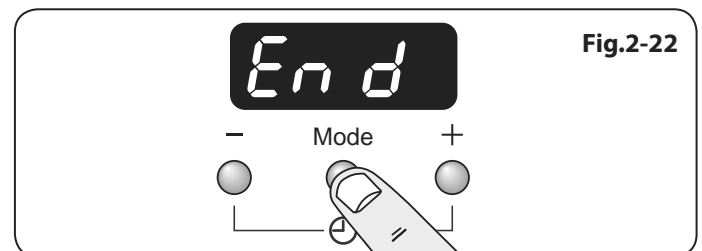
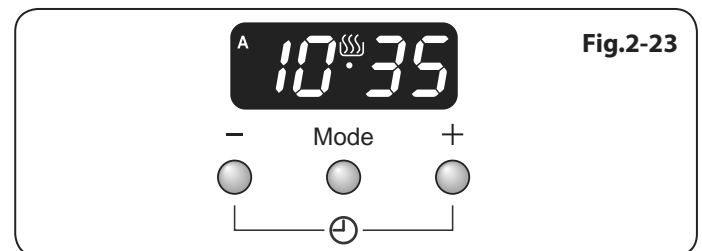

Fig.2-22
Fig.2-23
2. Press the mode [Mode] button until the display flashes 'End' (Fig.2-22). Then set the 'stop time' using the [+] or [-] buttons. After a 5 second period following adjustment the current time will be displayed along with the 'A' and cooking [SSJ] symbols (Fig.2-23).